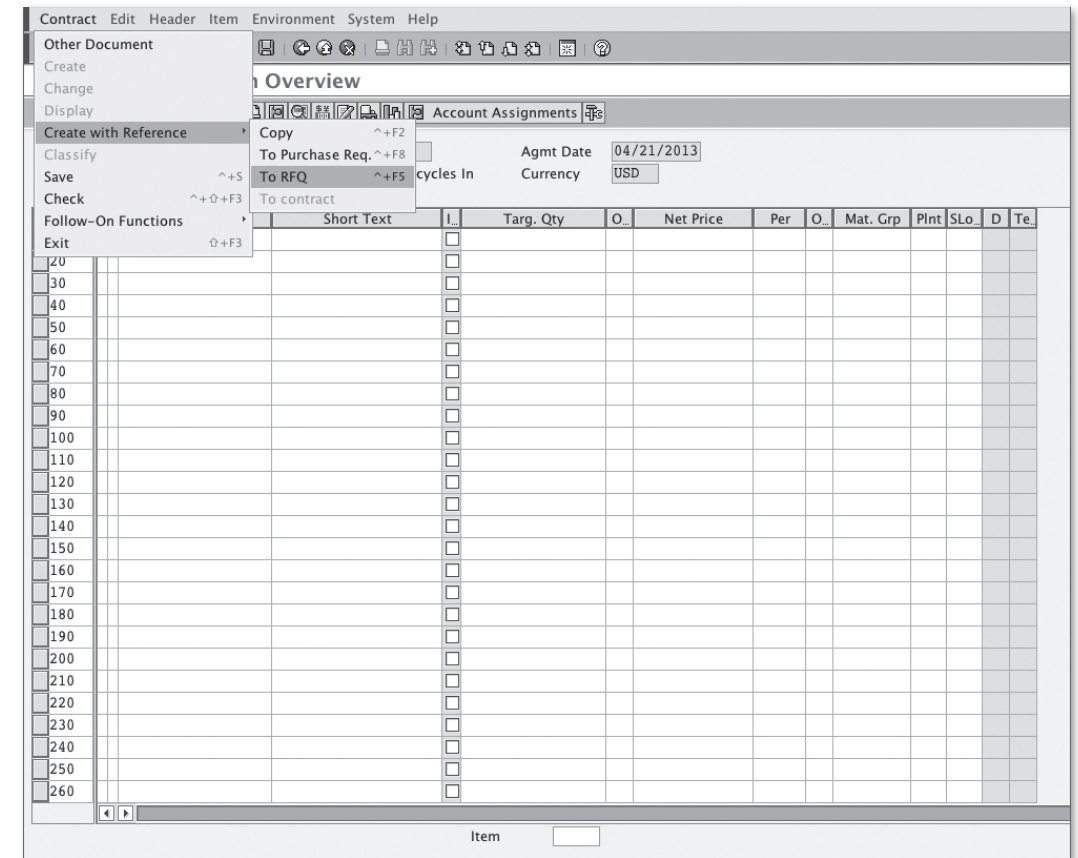

Figure 4.9 Option to Copy the Items from an Existing Document
3. In the ITEM OVERVIEW screen, enter the materials and quantities that will be committed for purchase from the vendor (see Figure 4.9). At this point, you can still choose to copy from a reference document or proceed to enter the materials manually.